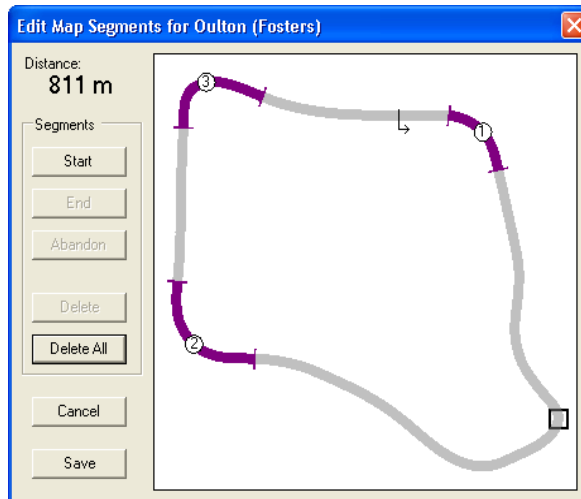

Figure 25 - Edit Map Segments Dialog (Segment Deleted)
4. Click **Delete**. The segment is removed from the map (see Figure 25).